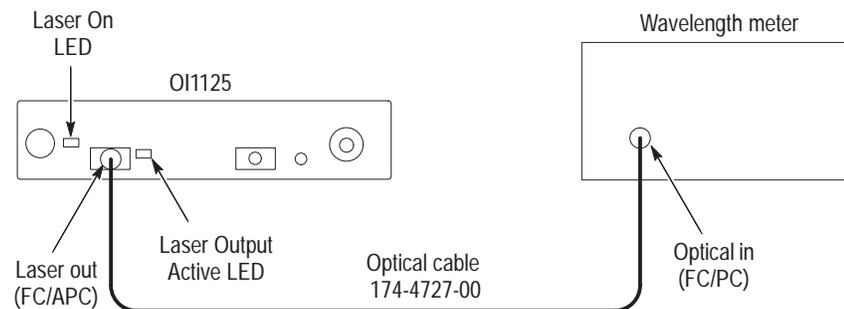

Figure 13: Setup for the output wavelength test
1. Connect the internal laser output to the wavelength meter input, using the FC/APC-to-FC/PC single mode cable. See Figure 13.